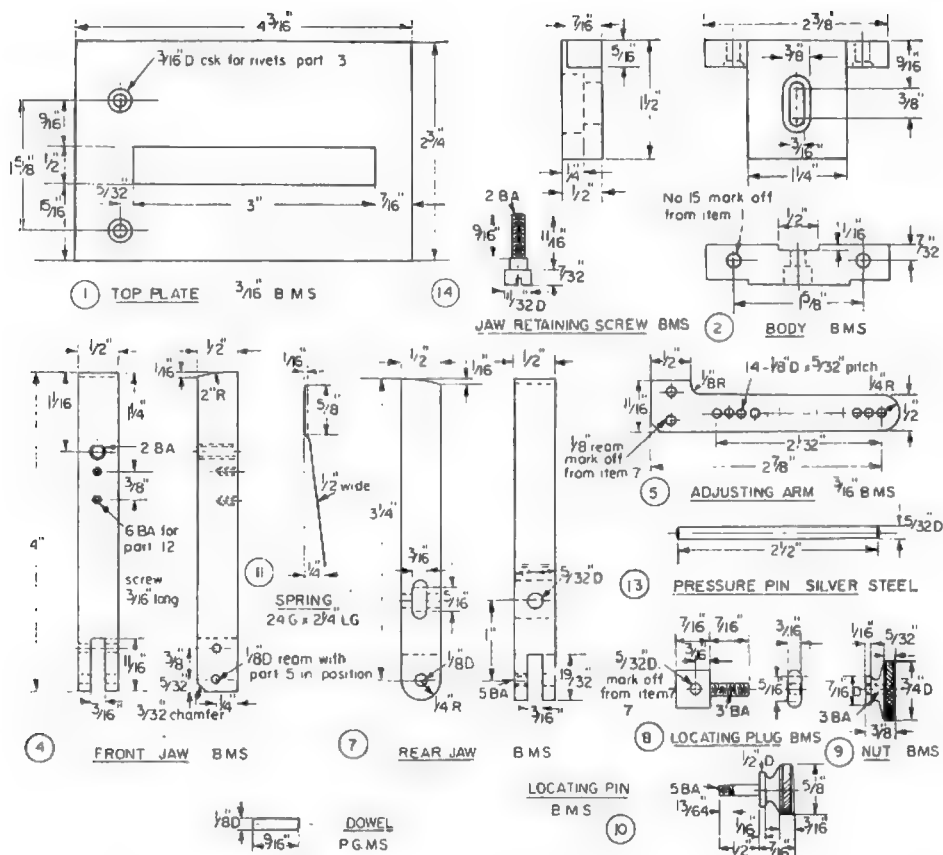

Fig. 1.2 Details of thinpiece vice.
Make the jaws, items 4 and 7 (Fig. 1.2) first, as these will be required as gauges for the top plate and body. The ideal material is $\frac{1}{2}$ in. square ground gauge stock as this needs no preparation. Failing this, take an $8\frac{1}{2}$ in. piece of $\frac{1}{2}$ in. material and carefully file parallel and square. Keep the width to a uniform thickness – plus or minus 0.001 in. The depth is not so critical. File one end square, cut off a piece $4\frac{1}{16}$ in. long and repeat the process. (The squared ends will ultimately be the top of the jaws.) Coat with copper sulphate or marking blue and mark out all holes and the slots in the lower ends, taking all dimensions from the squared ends.